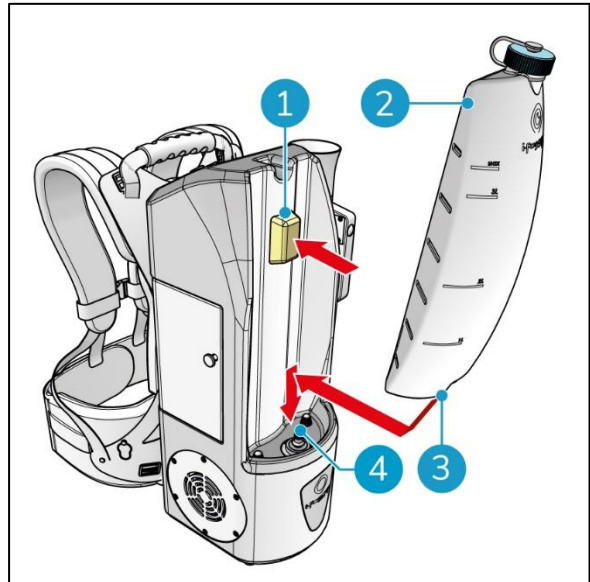

Figure 8
2. Place the disinfectant solution tank (Figure 8, pos 2) on the i-fogger. Press it downwards to make sure that the valve (Figure 8, pos 3) is secured onto the valve stem (Figure 8, pos 4) on the i-fogger body.
3. Press the top of the disinfectant solution tank against the i-fogger body. The magnet (Figure 8, pos 1) locks the disinfectant solution tank in place.